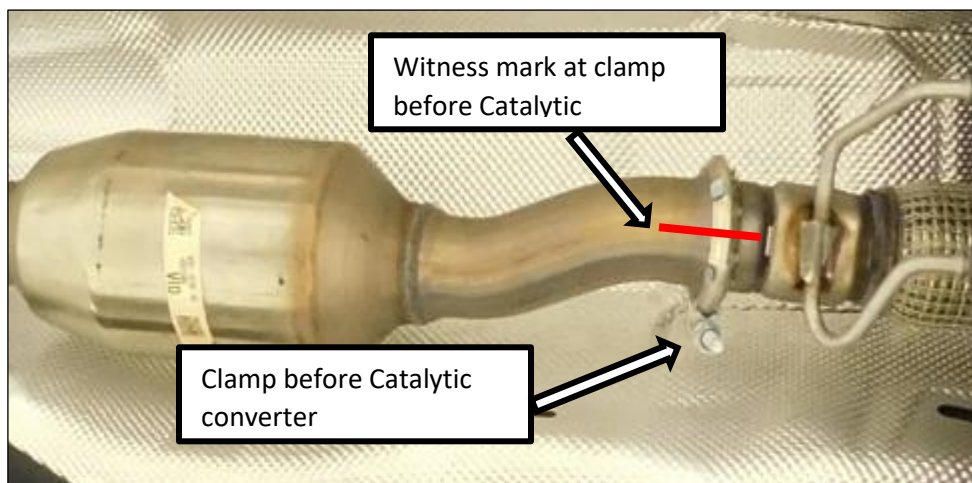

Figure 1
2. Make a witness line across the clamp connection just before the catalytic converter (**see Fig. 1**). Start the witness line on the pipe before the clamp and extend over the clamp onto the pipe on the opposite side of the clamp.
- Reinstall the catalytic converter and clamp, align the witness marks made in step two **Fig. 1** to ensure proper alignment. Tighten the clamp and support the catalytic converter to avoid damaging the flex section.